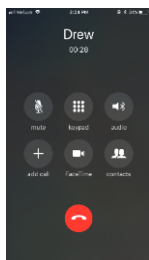

Figure 16
3. Once the phone begins to ring, the source display will indicate that the Processors are the active audio source (Figure 16).